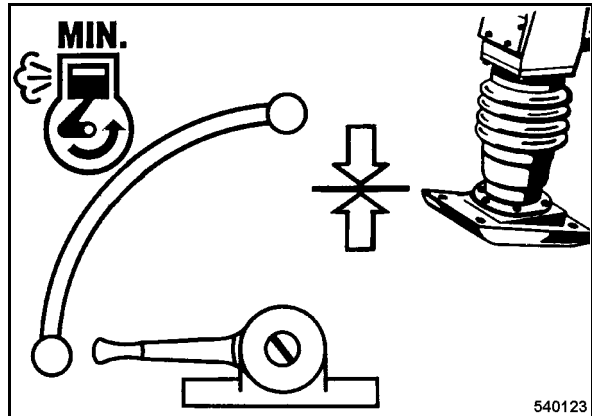

Fig. 22
- During short breaks you should always set the throttle lever to "MIN"-position (Fig. 22).